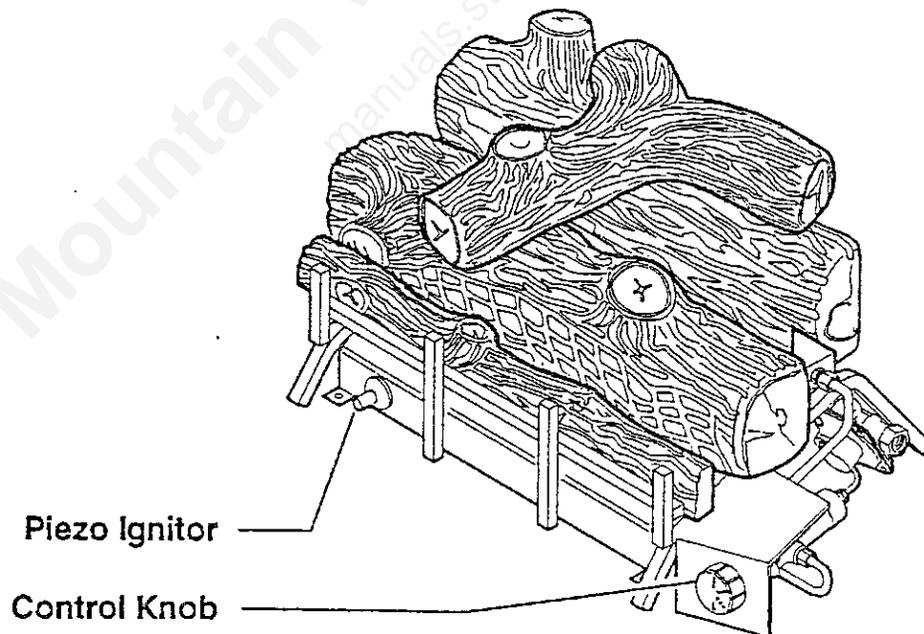

Figure 20: Location of Piezo Ignitor & Control Knob
3. Refer to *Figure 20* for the location of the piezo ignitor and control knob. Turn control knob clockwise to the OFF position.